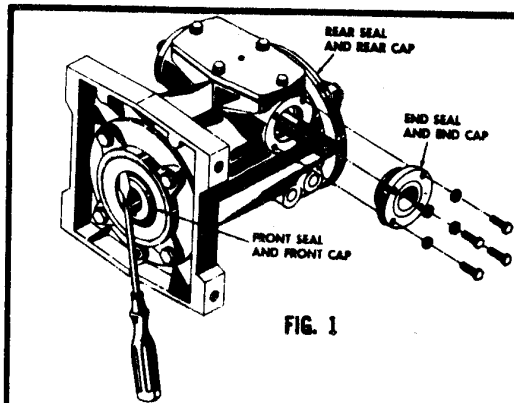

FIG. 1
TO REMOVE EXISTING FRONT AND REAR SEALS from front and rear caps on Gear Reducer (Fig. 1):
TO REMOVE EXISTING END SEAL and END CAP from Gear Reducer (Fig. 1):
2. Lay air switch assembly on flat surface and stand up on small end of switch mounting bracket. Adjust air blade by bending at "A" (Fig. 1) so that air blade lays flat and surface "B" is parallel to the flat surface.
2. Place the "A" & "B" diameter pins (see chart for size) inside the drying compartment between the rim of the basket opening and the rim of the door opening in the positions shown in Fig. 1 & Fig. 2.